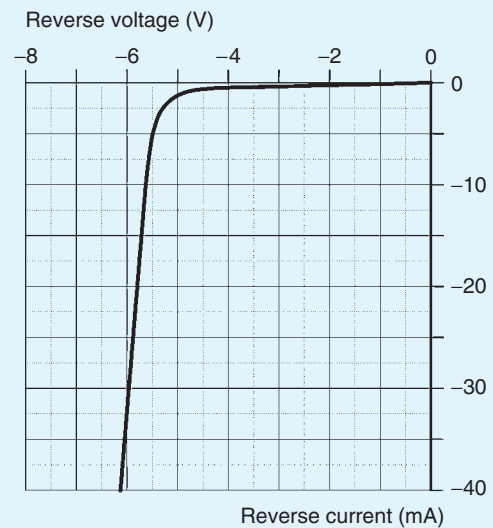

Figure 11.21
- The graph shown in Fig. 11.21 was obtained during an experiment on a Zener diode. (a) Estimate the Zener voltage for the diode. (b) Determine the reverse voltage for a reverse current of  $-20$  mA. (c) Determine the reverse current for a reverse voltage of  $-5.5$  V. (d) Determine the power dissipated by the diode when the reverse voltage is  $-6$  V.